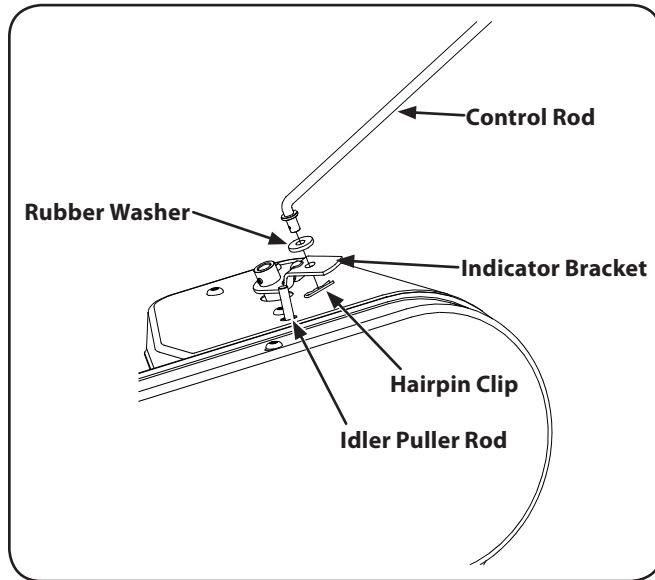

Figure 3-5
3. Insert the shorter (angled) end of the control rod through the indicator bracket on the shift cover and secure with the hairpin clip that was previously removed. See Fig. 3-5.